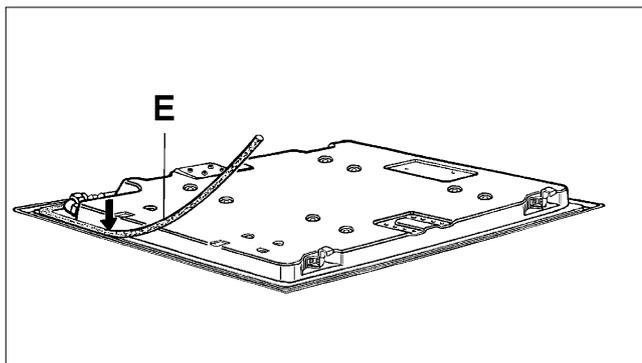

FIG. 7
- Overturn the hot plate and correctly position seal "E" (fig. 7) under the edge of the hot plate itself, so that the outer side of the seal perfectly matches the outer perimetral edge of the hot plate. The ends of the strips must fit together without overlapping.